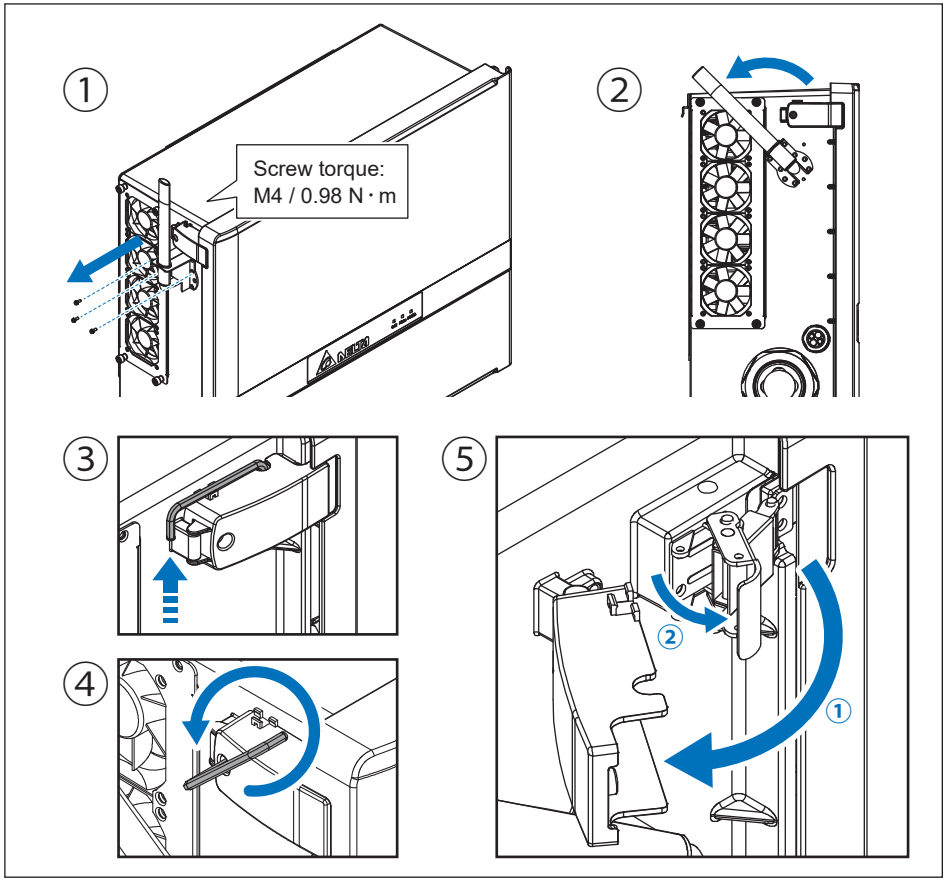

Figure 5-1: Open the door
1. Remove screws of the antenna bracket as **Figure 5-1-①**.
2. Use the 4mm hexagon wrench to loose the screw of the protection cover, and then release the latch locks as **Figure 5-1-④**.